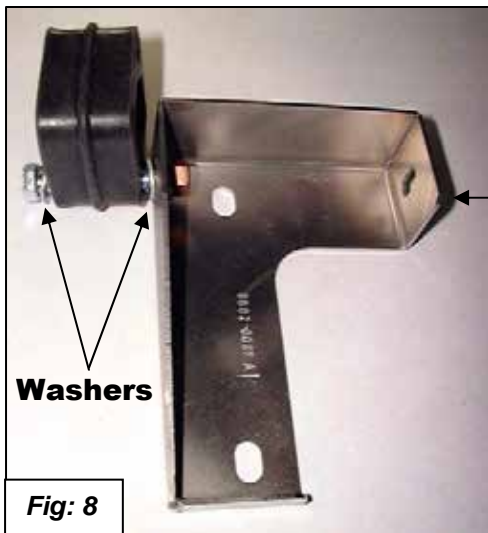

Fig: 8
- Install the rubber hangers with spacers onto the new hangers. The front hangers go on the outside of the new front mounts. See figures 8,10 and 11. The rear hangers go on the opposite side of the bolt flange as shown in figure 9. Make sure you put a washer on both sides of each rubber mount. Install the ground strap on the outer hanger on the front mount. See figures 10 and 11.